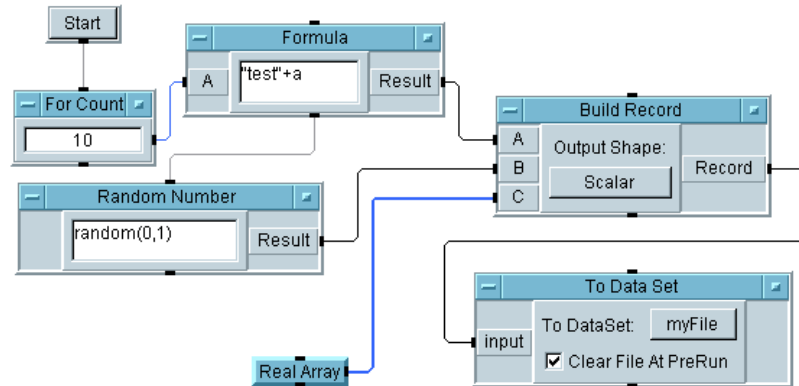

Figure 5-14. Storing an Array of Records in a DataSet
- Run the program. It should put an array of ten records into the DataSet called `myFile`, as shown in Figure 5-14.